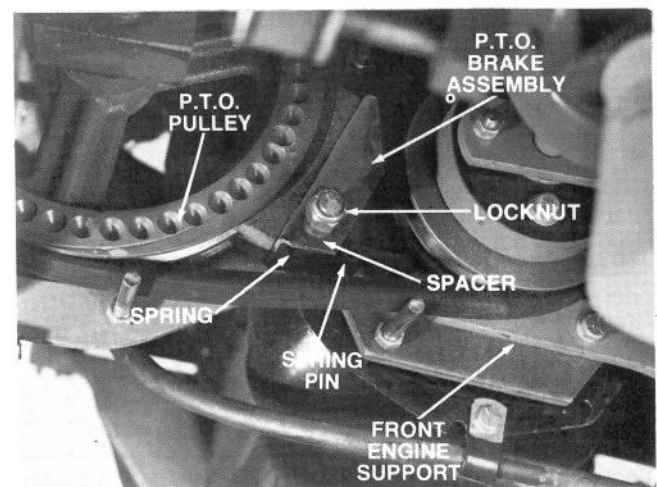

Figure 5
INSTALL P.T.O. BRAKE (FIG. 5)
3. Install the front engine support. Torque the mounting capscrews to 35-40 ft-lb (Fig. 5).
4. Check end play in the P.T.O. shaft assembly by levering the P.T.O. pulley forward and rearward (Fig. 5). If end play exceeds 1/32 inch, remove the cotter pin and flat washer from the P.T.O. pulley end of the P.T.O. pivot shaft and add one (1) or two (2) 3/4 x 1 1/4 washers to reduce end play to less than 1/32 inch and install cotter pin.
5. Engage P.T.O. lever, slide the spring over the stud, then the P.T.O. brake assembly over the stud and the spring pin (Fig. 5).
6. Install the spacer and start the 1/2-20NF nut on the stud (Fig. 5).